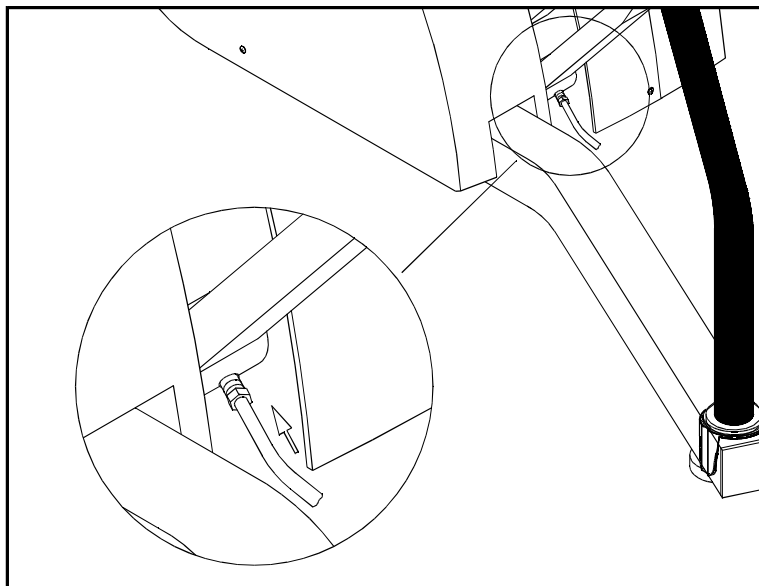

Fig.7
1. Refill with the lubrication tube and the lubrication valve. (see fig.7)